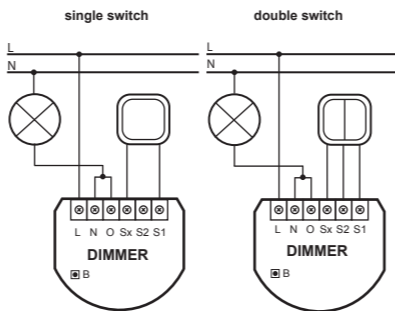
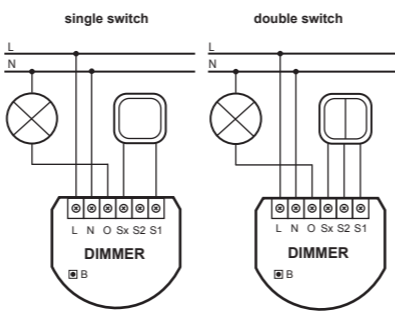

Fig.1 Wiring diagram for connecting the Dimmer - 2-wire connection
Fig.2 Wiring diagram for connecting the Dimmer - 3-wire connection
4. Arrange the antenna (tips are presented below diagrams of fig. 1 and 2)
Connect the device in accordance with the wiring diagram presented in Fig. 1. or Fig. 2. Switch on the mains voltage of 110 - 240V.